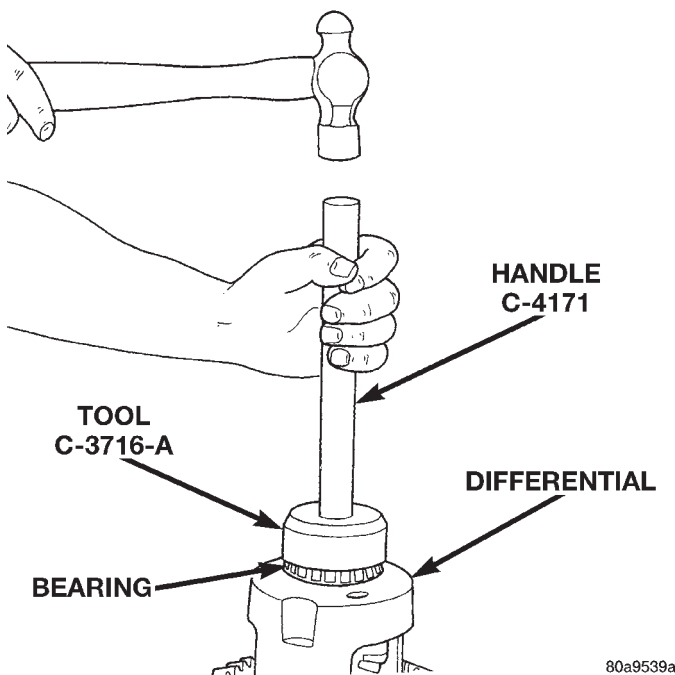

Fig. 31 Install Differential Side Bearings
(1) Using tool C-3716-A with handle C-4171, install differential side bearings (Fig. 31).
(2) Install differential in axle housing.